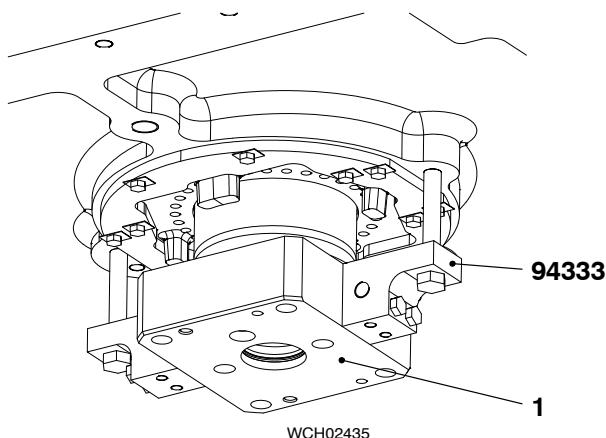

Fig. 10
- 1) Make sure that the piston rod foot (1, Fig. 10) is clean and has no damage.
- 6) Remove the holders (94333, Fig. 10).